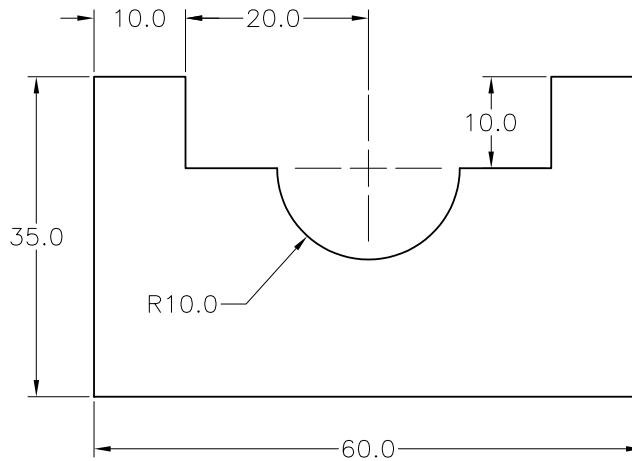
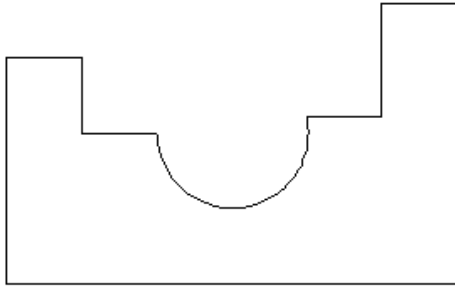
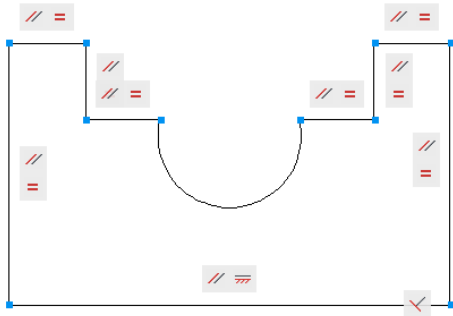

Figure 1-23 Sketch for Example 2
Figure 1-24 Closed sketch drawn
Figure 1-26 Sketch after applying the *Equal* constraint
In this example, you will draw the sketch shown in Figure 1-23, and then apply the geometric and dimensional constraints to it.
1. Start a new file with the *acad.dwt* template in the **Drafting & Annotation** workspace and draw the outer profile with dimensions close to that given in Figure 1-23. Make sure that the endpoints are snapped so that they form a closed sketch, as shown in Figure 1-24.
5. Now, you need to apply the equal constraint. To do so, choose the **Equal** tool from the **Geometric** panel of the **Parametric** tab and apply the Equal constraint between the lines that are supposed to have equal dimensions. For dimensions, refer to Figure 1-23. The equal constraints need to be applied to the two pairs of horizontal and two pairs of vertical lines in the sketch. The sketch after applying the Equal constraint is shown in Figure 1-26.
Now, you need to apply the dimension between the center of the arc and the vertical line on the left, refer to Figure 1-23.